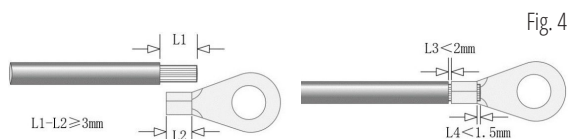

Fig. 4
**STEP 3. WIRING.** As shown in Fig. 4, strip off each wire of the supply cable with a wire stripper, then insert the copper wire into the crimp area of the ring terminal and crimp it with a crimping tool.